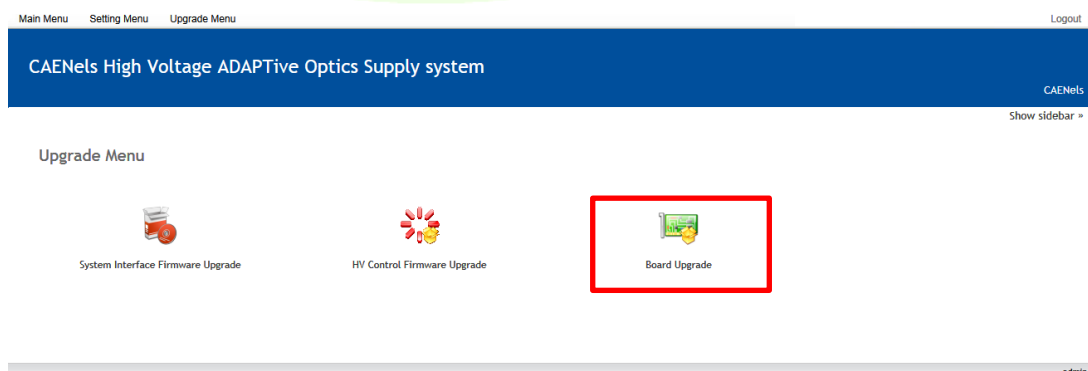

Figure 32: Board Upgrade
- to install a newer revision of firmware for HV board, click on the *Upgrade Menu* -> *Board Upgrade* icon as indicated in **Figure 32**;